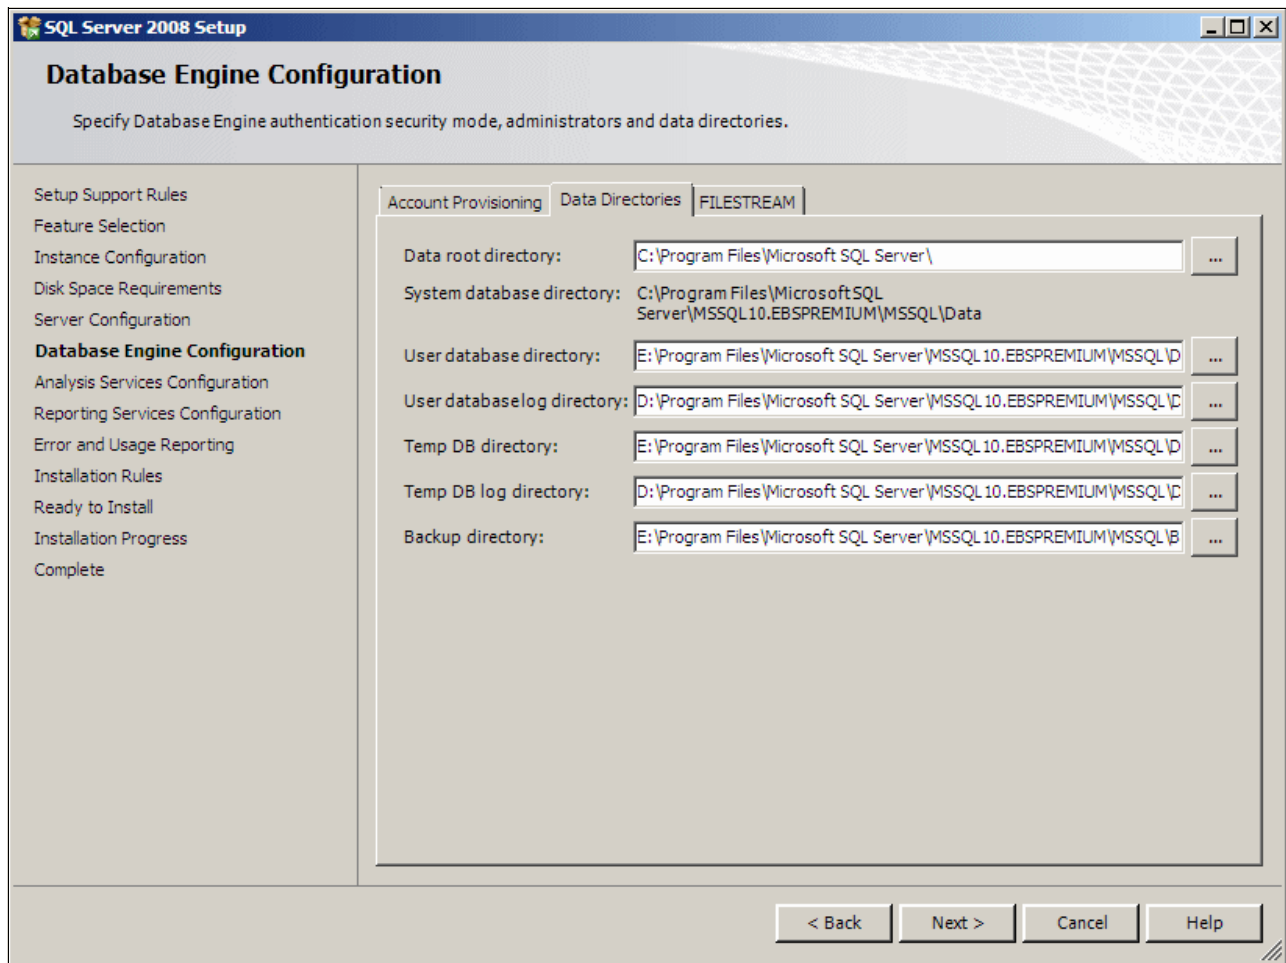

Figure 6-28 Database Engine configuration
11. The Data Directories tab of the “Database Engine Configuration” panel (Figure 6-28) displays all of the directory paths the database will use. Select the correct drives and paths. Failing to do so may inadvertently have the database be installed on a smaller capacity drive. We implemented an environment with the following configuration: